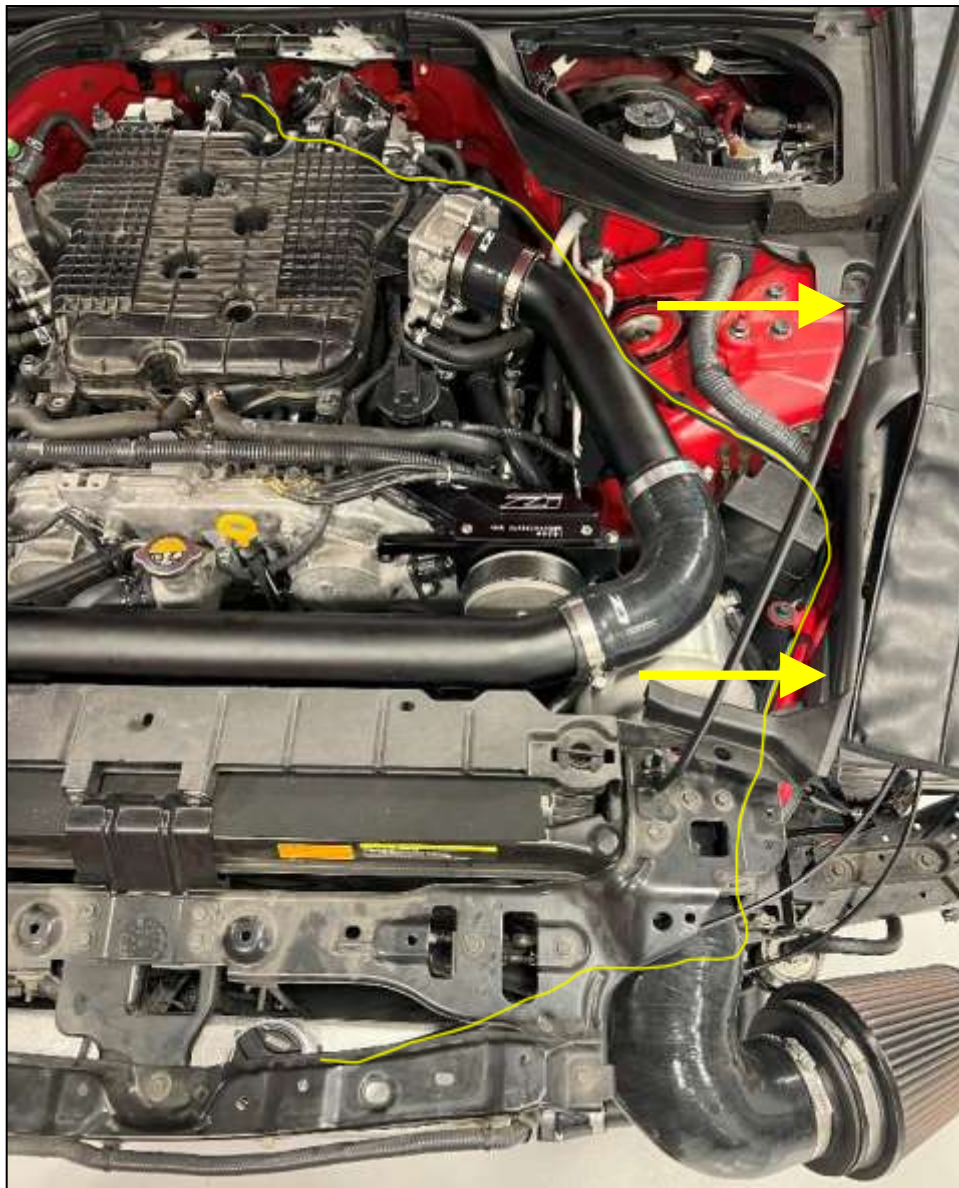
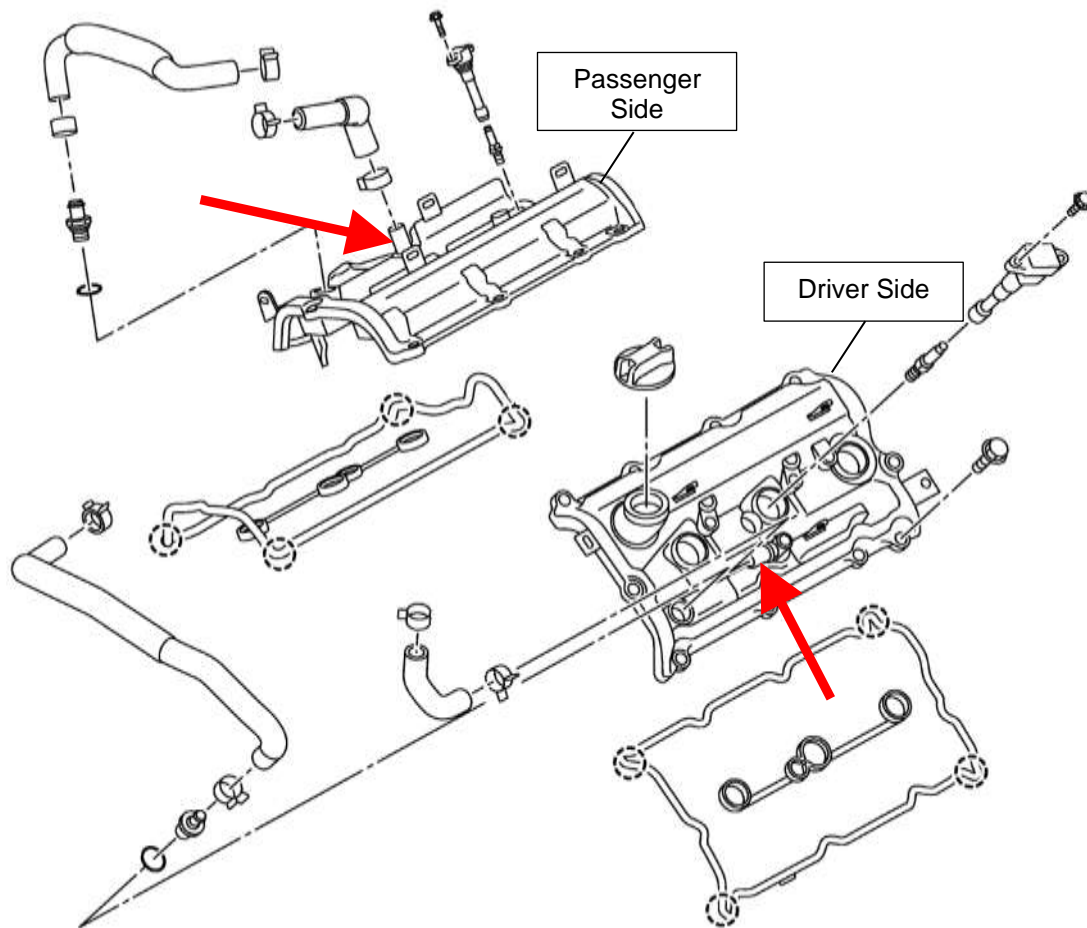

Figure 52
Figure 53
- a. *Figure 52* below shows the first method mentioned, where the vacuum line is tee'd right off the back of the plenum. The line then routes around the engine, around the Supercharger Bracket, through the core support (that was enlarged earlier), and then to the port on the Turbosmart RacePort. Secure the line with the supplied Short Zip Ties (#35). The line's path is drawn/highlighted with a yellow line.
- b. If you prefer to keep the engine bay a little cleaner and tee'd into the brake booster hose behind the firewall, you can route it against or underneath the trim on the side of the engine bay (shown with arrows above in *Figure 52*), then under the silicone intake and to the RacePort.
4. Locate the 12.5ft of 5/8" PCV/EEC fuel line hose (#57), (6) six Large Spring Clamps (#22), and the 5/8" Equal Tee Fitting (#24).
6. Start by connecting one end of the PCV Hose to the passenger side PCV port (*Figure 53* below with arrow).
10. Route the hose under the Silicone Intake Tube and towards the driver side Valve Cover. Cut the hose and connect it to the PCV Port on the driver side valve cover (shown with arrow in *Figure 53* on previous page). Ensure the hose is not touching the rear Supercharger pulleys, zip tie PCV hose away from pulleys.